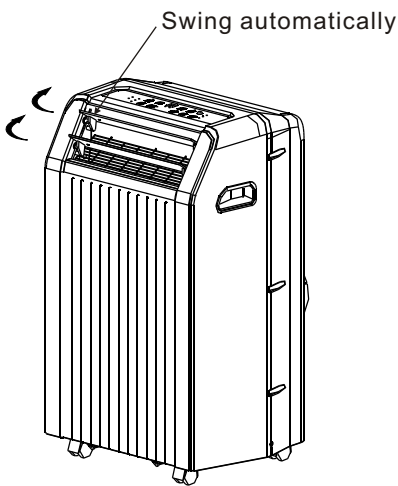

Fig.6
• **Adjust the air flow direction automatically (Fig.6):**
- If you keep pressing the SWING button more than 2 seconds, the auto swing feature is activated. The louver swings as shown in Fig.6